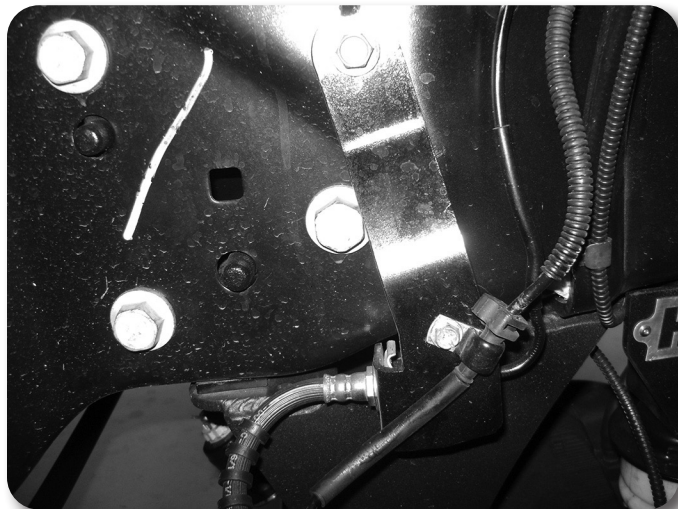

Figure 14B (Driver's Side)
38. Attach the ABS wire to the driver's side with 1/4" hardware with rubber coated cable clamp **Figure 14B** Tighten to 101 in-lbs.